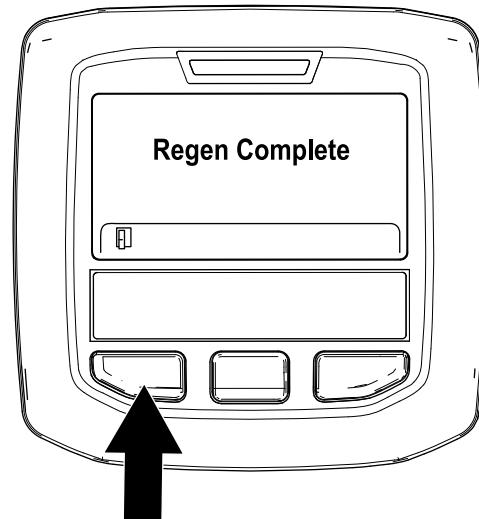

Figure 41
- The parked regeneration is complete when the “Regen Complete” message displays in the InfoCenter. Press the left button to exit to the home screen (Figure 41).